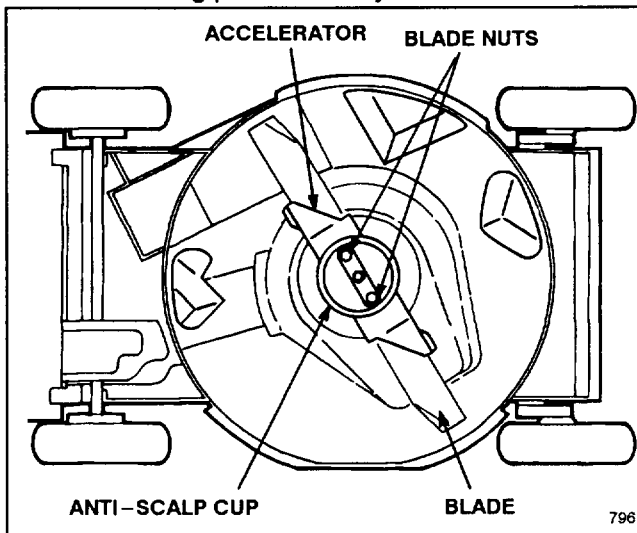

Figure 25
3. Tip mower on its left side (Fig. 25). Avoid rotating blade as starting problems may result.
5. **REMOVING BLADE**—Grasp end of blade using a rag or thickly padded glove. Remove (2) blade nuts, anti-scalp cup, accelerator, and blade (Fig. 25).